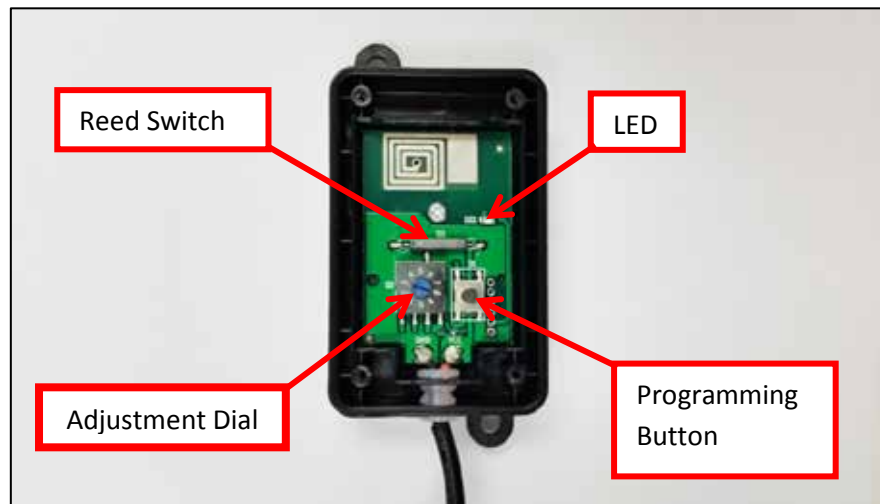

Fig.4
- 1) Set the Motion sensor Adjustment Dial to 0. (See Fig.4).
- 4) Press the programming button on the GC779G Motion sensor ONCE (See Fig.4). The GC1146C will bleep several times to indicate that the program has been accepted.